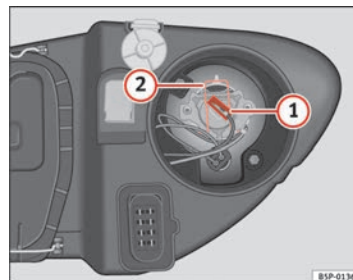

Fig. 168 Main beam headlights
- Remove the connector ⇒ fig. 168 ① from the bulb.
- Press the spring ⇒ fig. 168 ② inwards and to the right.